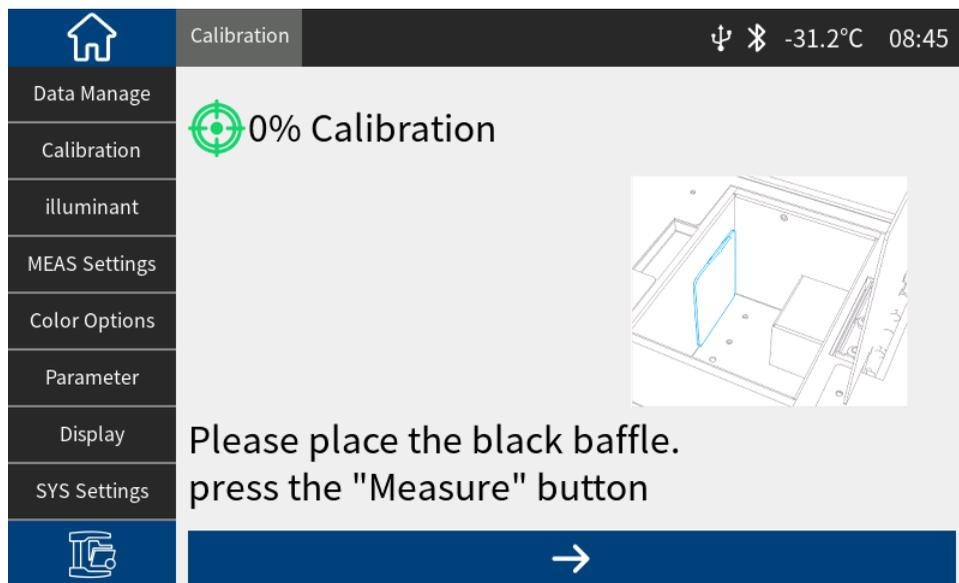

Figure 4 0% Calibration
3. Within the calibration validity period, you need to click "→" to enter the calibration interface. After placing the transmission blackboard according to the prompts, press the measurement button to perform transmission black calibration. If it is not within the calibration validity period, it will automatically enter the 40% calibration interface in Figure 4.